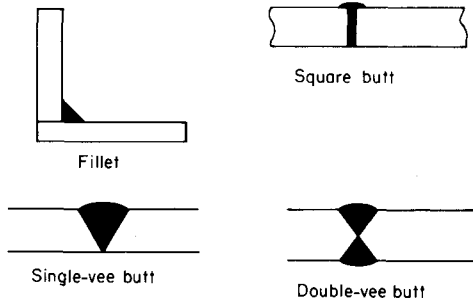

Fig. 4.150
**Welded joints.** Fig. 4.150 shows some typical welded joints.